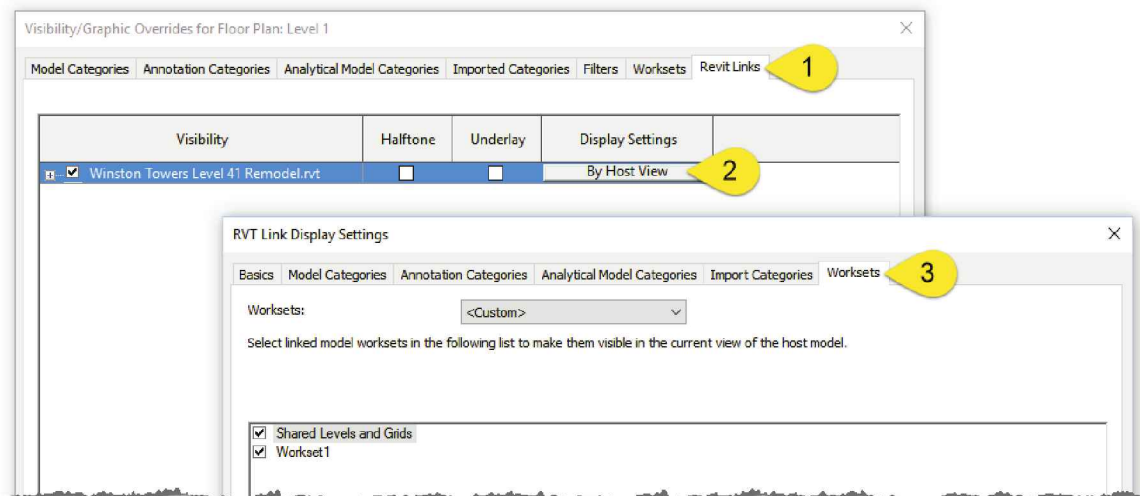

FIGURE 17-2.19 Worksets in linked models
- Click the **Revit Links** tab (Figure 17-2.19)